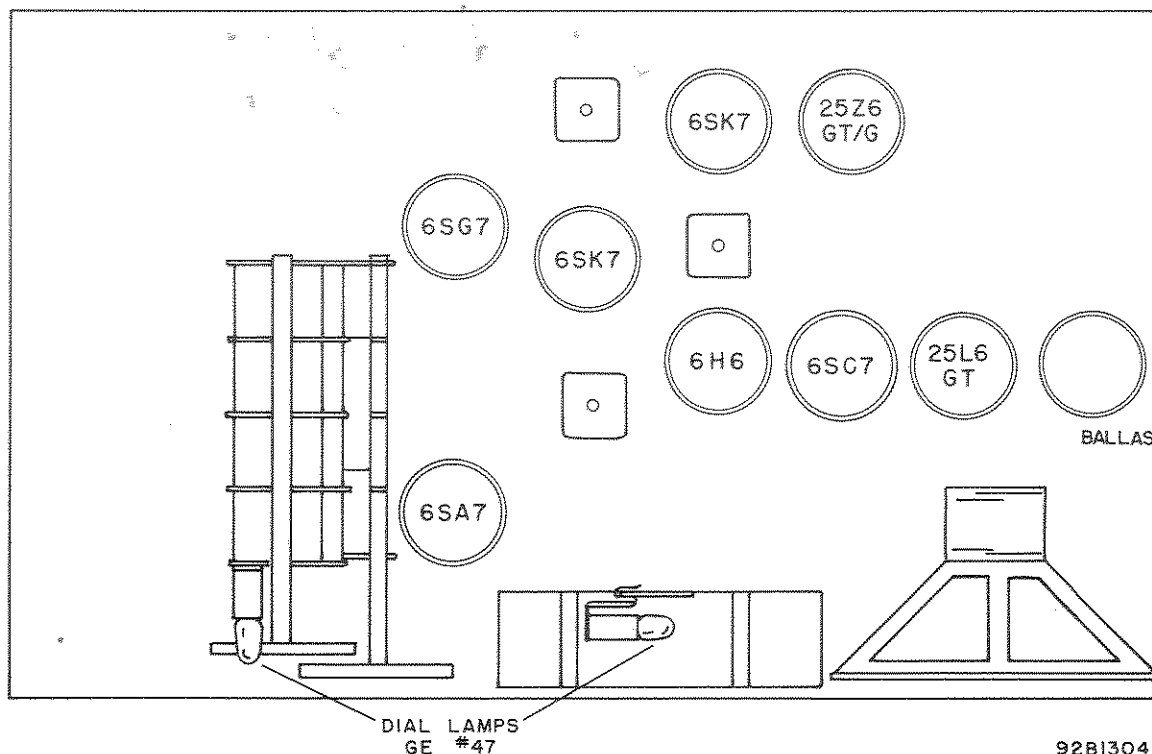

Figure 7. Radio Receiver Model S-77, view showing tube and dial lamp locations.
- (1) See that the tubes are securely seated in their sockets. Refer to Figure 7 for the proper location of each tube.
- (2) Check the pilot lamps located behind the dial escutcheons and see that they are securely in place.
- (3) Check all external connections. See that they are secure and make positive contact. Remember that an improvised installation gives improvised results.
REPLACING TUBES AND DIAL LAMPS. - When replacing tubes, check the tube type carefully and replace with the correct type. Refer to the top of the receiver chassis, Fig. 7, to determine the location of each tube. The receiver employs two dial lamps with bayonet type sockets to illuminate the two dial scales. Replace these with similar types, 6-8 volts, 150 ma., "brown bead" G.E. #47 or equivalent. The color code referred to is the color of the glass bead above the glass stem inside the envelope of the lamp.